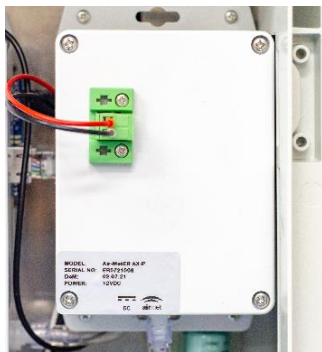

Figure 6-8 – Pump Top
I. No air flow at the exhaust	<ol style="list-style-type: none">1. Are the pump modules plugged in at the top as displayed in Figure 6-8?2. Are the filters blocked and need replacement?3. Trace the tubing from the outlet of the top particulate pump module down to the external exhaust.4. Trace the tubing from the bottom gas pump module outlet through each of the installed gas sensor modules and out to the external exhaust for any signs of leaks or blockages.5. Follow the Flow Rate Calibration section (page 15) to adjust the flow rate.
<p>II. Air flow at the heated inlet not within the appropriate range. AXII 2L/m \pm5% AXIV 1L/m \pm5%</p>	<ol style="list-style-type: none"> 1. Are the filters blocked and in need of replacement? 2. Is the top particulate pump module plugged in at the top as displayed in Figure 6-8? 3. Are the heated inlet and particulate sensor modules connected by the tube adapter? 4. Trace the tubing from the heated inlet > particulate sensor module > dust filter > top particulate pump module > exhaust t-piece > external exhaust for any signs of leaks or blockages. 5. Follow the Flow Rate Calibration section (page 15) to adjust the flow rate.
<p>III. Air flow at the outlet of the last gas sensor is not within the 0.85L/m \pm5%</p>	<ol style="list-style-type: none"> 1. Are the filters blocked and need replacement? 2. Is the bottom pump module plugged in at the top as displayed in Figure 6-8? 3. Trace the tubing from the gas inlet > water stop filter > bottom gas pump module > all of the installed sensor modules > exhaust t-piece > external exhaust for any signs of leaks or blockages. 4. Follow Flow Rate Calibration section (page 15) to adjust the flow rate.
<p>IV. Readings are low</p>	<ol style="list-style-type: none"> 1. Are the pump modules plugged in at the top as displayed in Figure 6-8? 2. Check to make sure there is flow at the external exhaust. 3. Check that the flow rates at the gas and heated inlets are as detailed from II. and III. 4. Is the instrument due for calibration? 5. Are the filters polluted and need replacement?
<p>V. Either pump module not running</p>	<ol style="list-style-type: none"> 1. Is the pump module plugged in at the top as displayed in Figure 6-8? 2. Is the modem on? If both the modem and pumps are not on, then the unit may not be powered on. 3. Check the fuse and power supply.